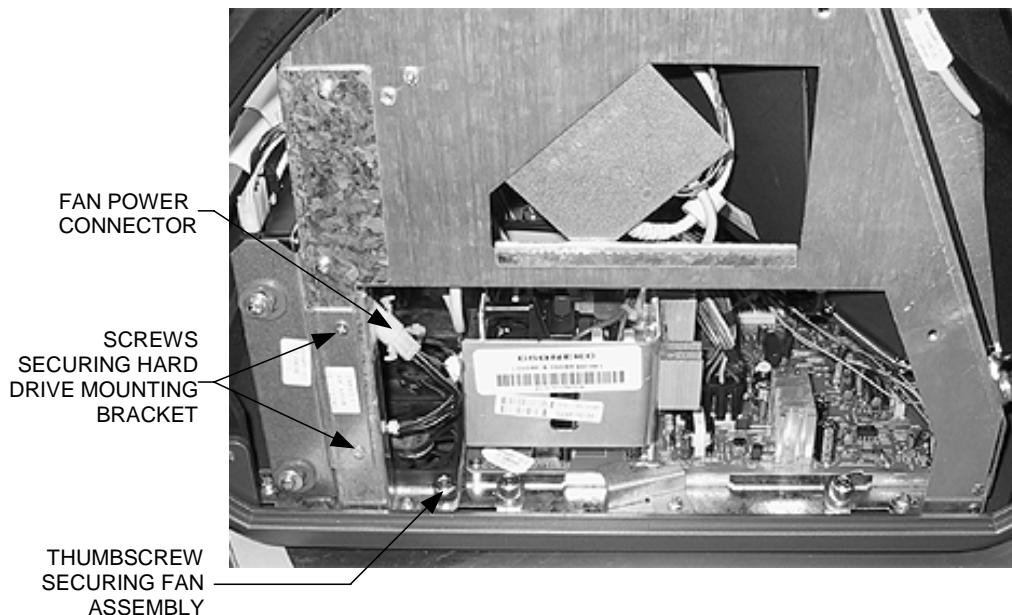

FIGURE 2 - HARD DRIVE/MONITOR REMOVAL
4. Carefully pull the motherboard assembly away from the 2 brackets holding it in place on the opposite side of the screws you removed (see Figure 2). NOTE: It may be necessary to disconnect some of the connections to the board in order to pull the motherboard away from the brackets.